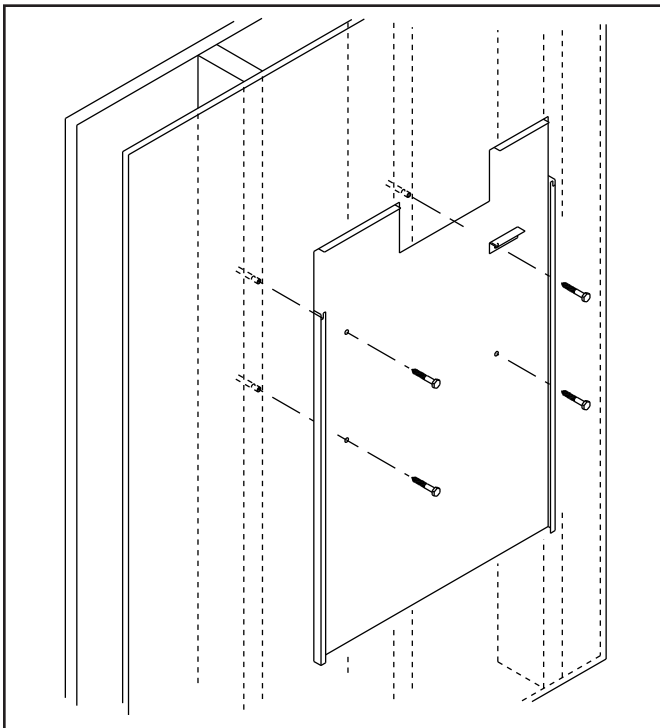

Figure 6: Secure Mounting Panel
3. Secure the mounting panel (see Figure 6) to wall using appropriate hardware: 5/16" lag bolts (provided) for frame construction wall studs; 5/16" wall anchors or expansion plugs if construction is other type.